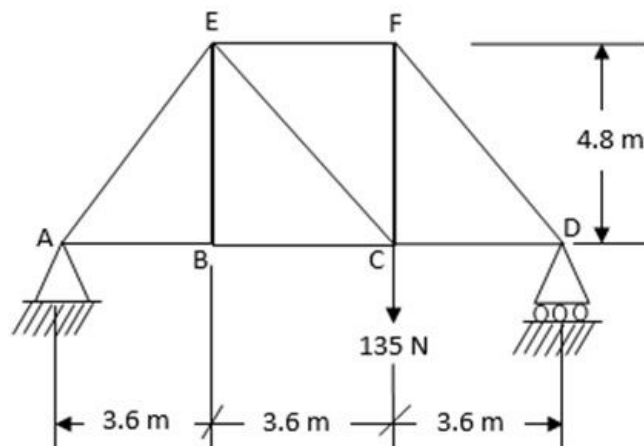

Fig.5
5. Using the method of virtual work, find the vertical deflection component of point E of the truss shown in fig.5. Cross-sectional areas of members are: AE and FD = 250 mm^2 ; EF and EC = 1875 mm^2 ; AB, BC, CD, EB and FC = 1250 mm^2 ; young's modulus $E = 200 \text{ kN/mm}^2$.